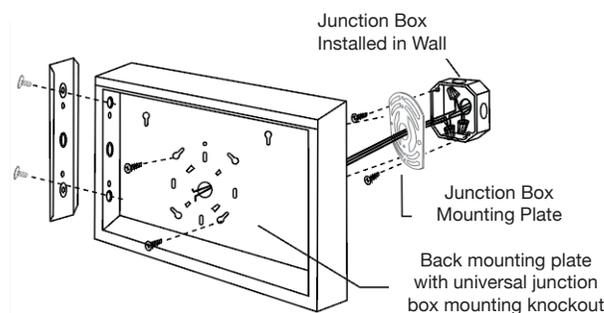

Fig. 3
- a). Pull wires through junction box mounting plate then connect junction box mounting plate to the junction box with screws (Fig. 3).
- b) Pull wires through the back mounting plate then connect the back mounting plate to the junction box mounting plate with crews (Fig. 3).